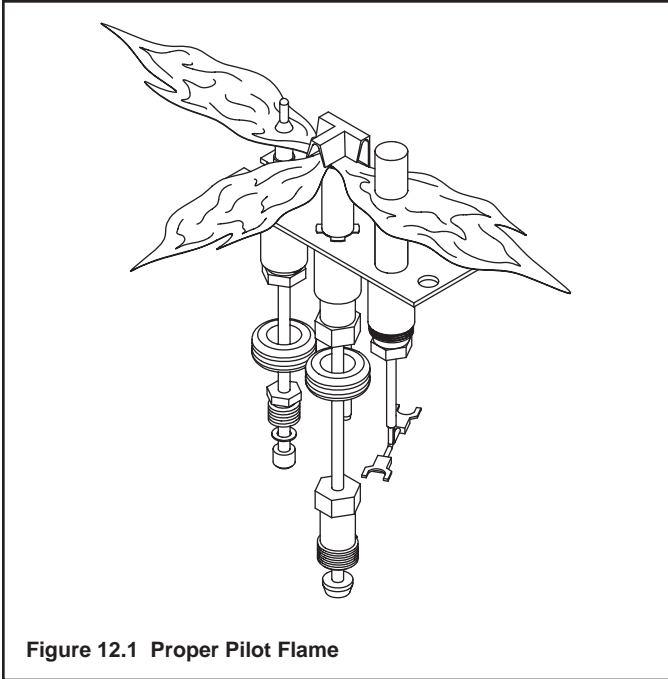

Figure 12.1 Proper Pilot Flame
- Pilot flame should be as shown in Figure 12.1.